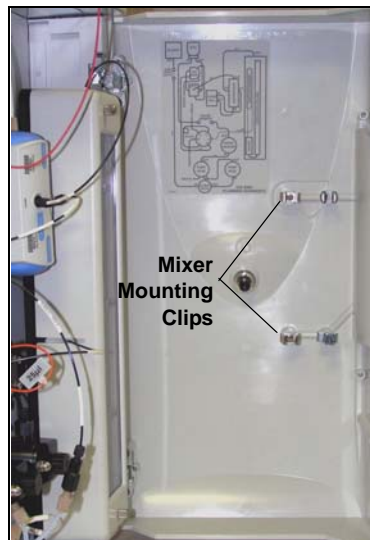

Figure B-68. Location of Mounting Clips for the EGC CO3 Mixer
2. Install the larger diameter clips (P/N 063642) (see Figure B-68).